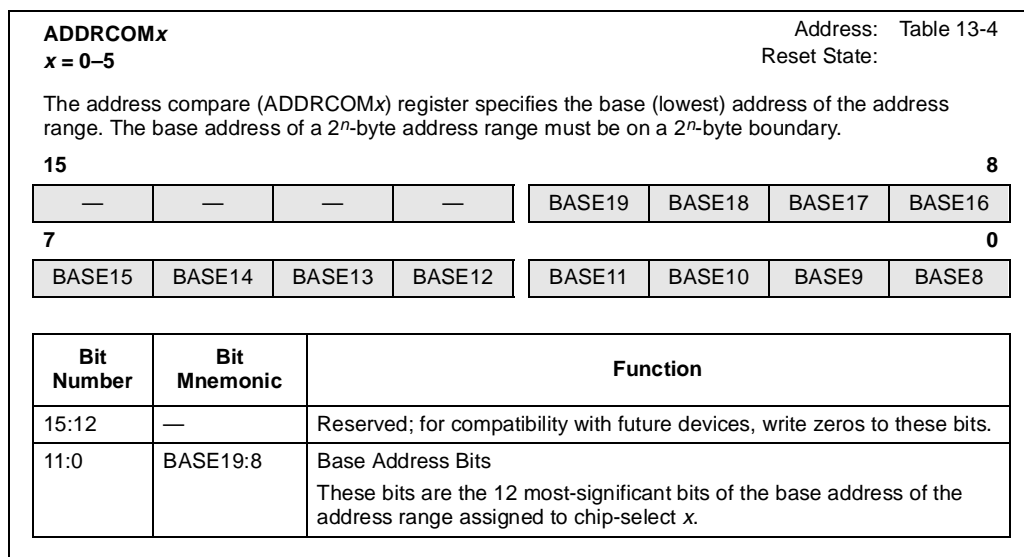

Figure 13-2. Address Compare (ADDR_{COM}_x) Register
This section describes the ADDR_{COM}_x and ADDR_{MSK}_x registers and how to set them up for a desired address range. The ADDR_{COM}_x register (Figure 13-2) and ADDR_{MSK}_x register (Figure 13-3) control the assertion of each chip-select output CS_x#. The BASE_{19:8} bits in the ADDR_{COM}_x register determine the base address of the address range. The MASK_{19:8} bits in the ADDR_{MSK}_x register determine the size of the address range.
- Place the 12 most-significant bits of the base address into bits $BASE_{19:8}$ in the $ADDRCOM_x$ register (Figure 13-2).
The location and size of an address range are specified by the ADDRCONx register and the ADDRMSKx register (see Figure 13-2 and Figure 13-3). The 8-Kbyte SRAM is assigned to address range 7E000–7FFFFH and uses chip-select output 2. The 12 most-significant bits of the base address (7E000H) are written to the BASE19:8 bits in the ADDRCON2 register, which then contains 07E0H.